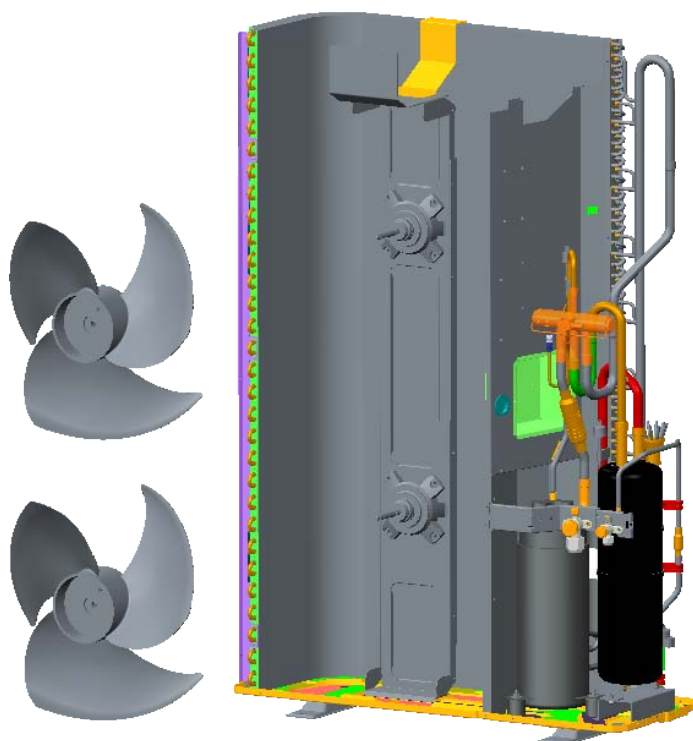

Fig. 9
- Loosen the ball nuts , and remove the axial fan. [See Fig. 9]